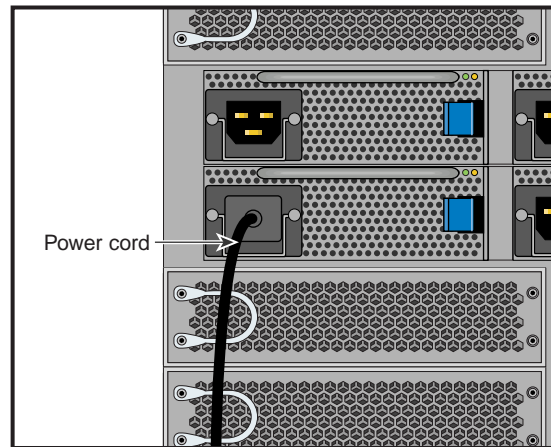

Figure 1-3 Blade Enclosure Power Supply Cable Example
2. For each individual blade enclosure pair that you want to power on, make sure that the power cables are plugged into all the blade enclosure power supplies correctly, see the example in Figure 1-3. Setting the circuit breakers on the PDUs to the "On" position will apply power to the blade enclosure supplies and will start each of the chassis managers in each enclosure. Note that the chassis managers in each blade enclosure stay powered on as long as there is power coming into the unit. Turn off the PDU breaker switch that supplies voltage to the enclosure pair if you want to remove all power from the unit.